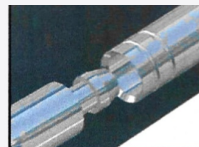

FIGURE 3
- 5 The ring is now closed and the seam has no gap (figures 3 and 4). If there is still space between the ends, turn the adjustment knob one setting further and repeat steps 3 and 4.